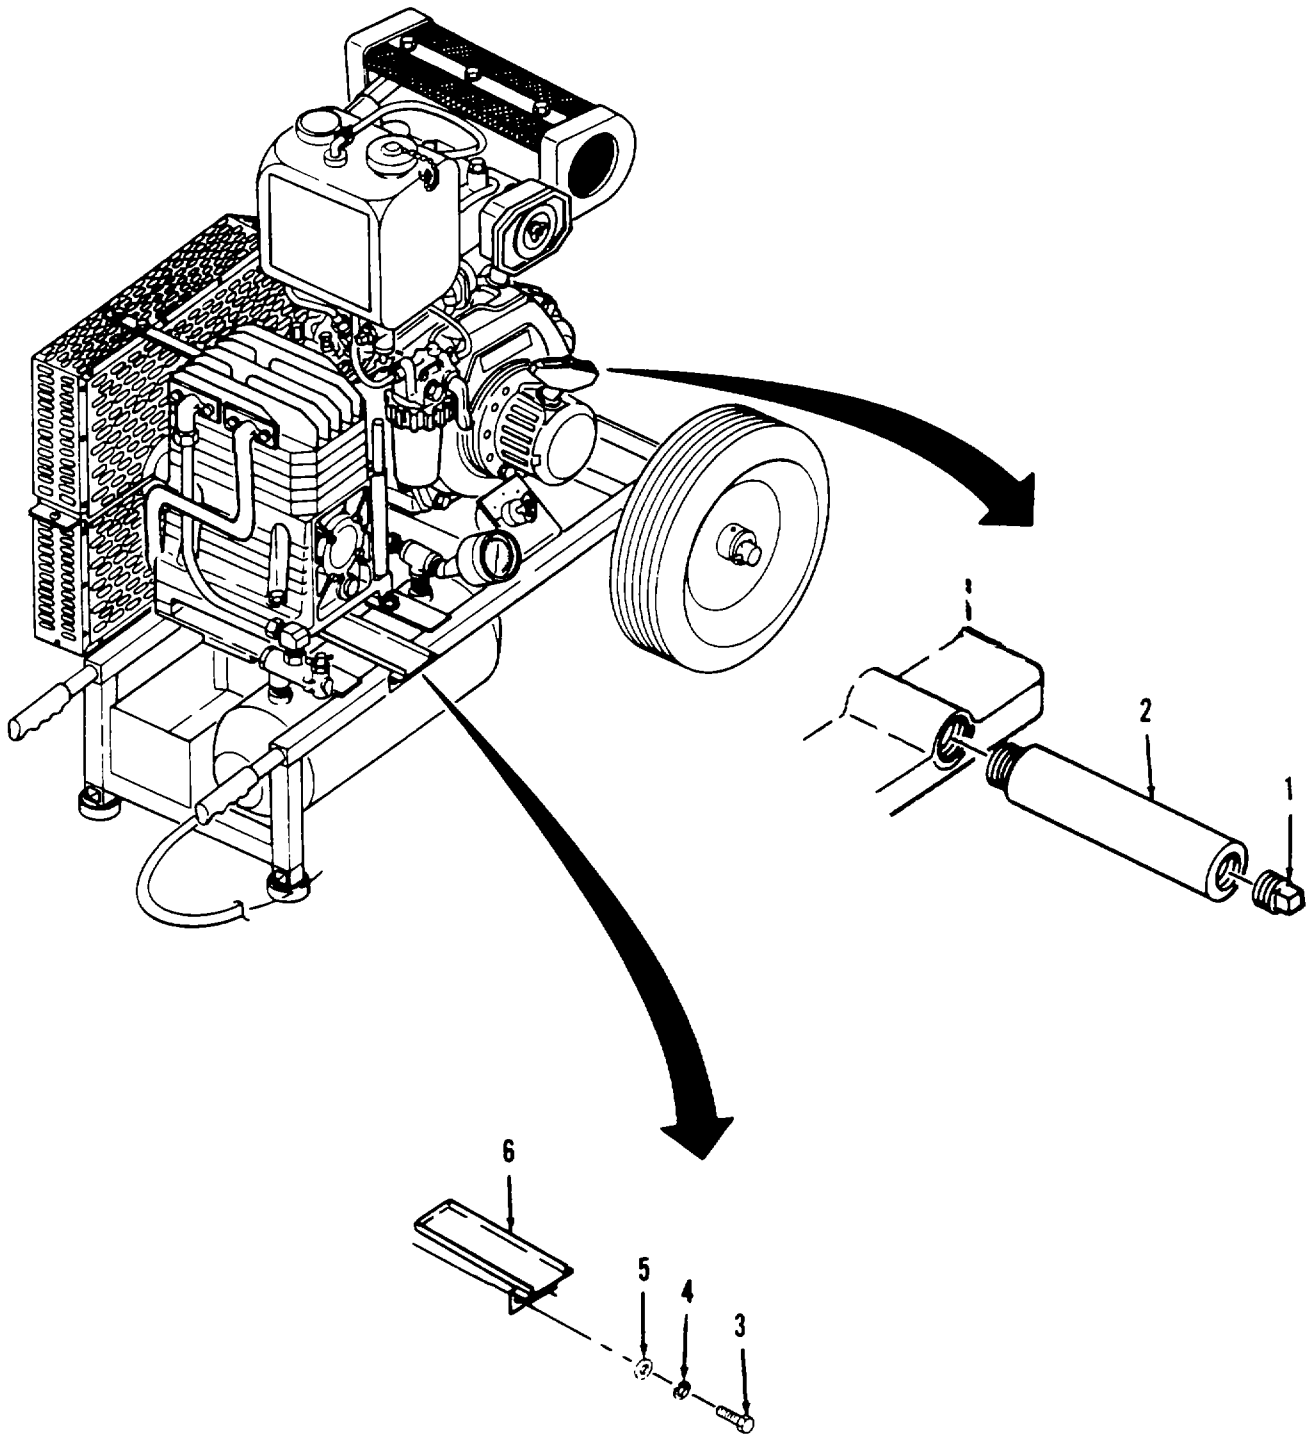

Figure 4-12. Compressor Oil Trough and Engine Oil Drain Repair and Replacement.
- a. Removal.** (Refer to Figure 4-12).
- (1) Remove plug (1) from drain adapter (2) and drain oil into drain pan.
- (2) Remove drain adapter (2).
- (3) Remove two screws (3), two flat washers (5), and two lock washers (4).
- (4) Remove compressor oil trough (6) from unit.